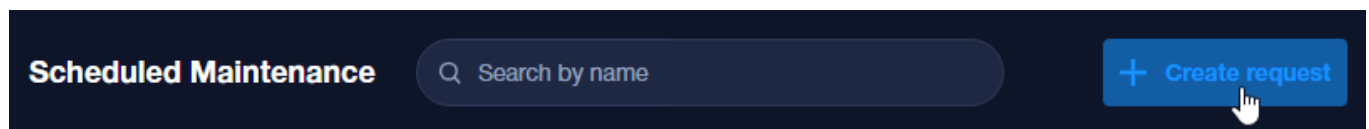

Figure 47. "Create request" button
1. Click the **Create request** button located in the upper right corner of the **Scheduled Maintenance** window (see Figure 47).